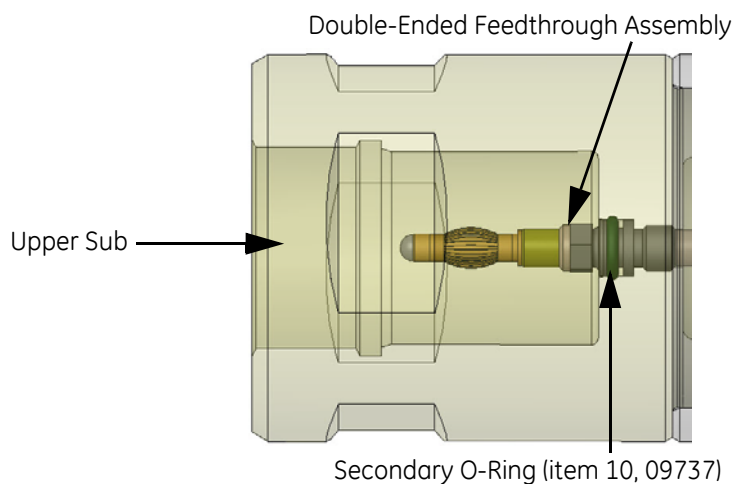

Figure 5-2 Upper Sub Assembly
The Upper Sub (item 7, 09737) contains the Connector (item 8, 09737) and O-Ring (item 10, 09737) which should to be checked after each run and replaced when necessary. Refer to Figure 5-2 and the instructions below to complete this task: